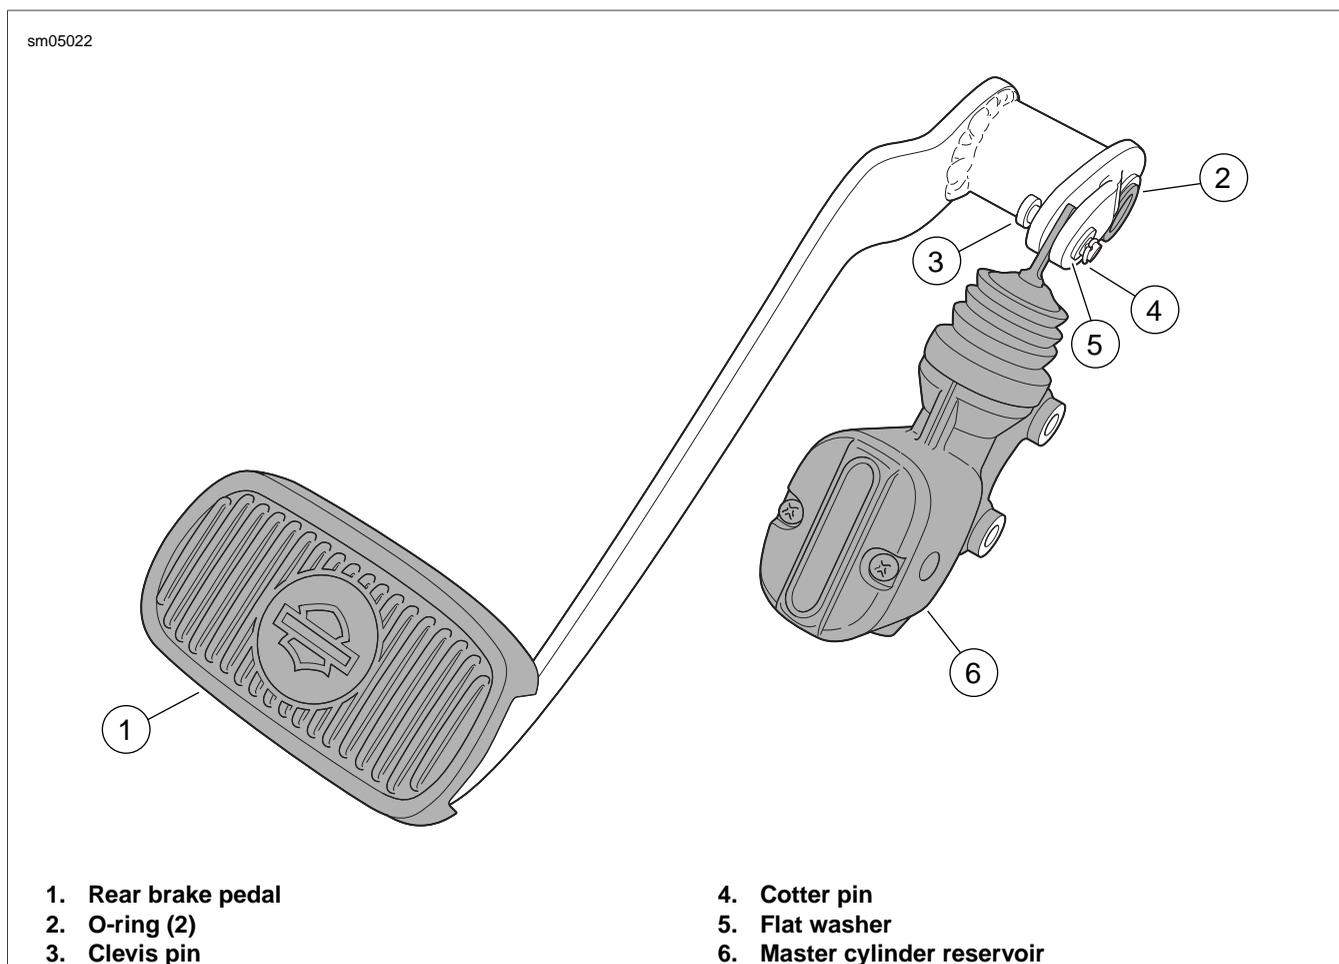

Figure 2-48. Rear Master Cylinder/Brake Pedal Assembly
10. Remove cotter pin and flat washer from clevis pin. Remove clevis pin to separate master cylinder assembly from brake pedal flange. See Figure 2-48.